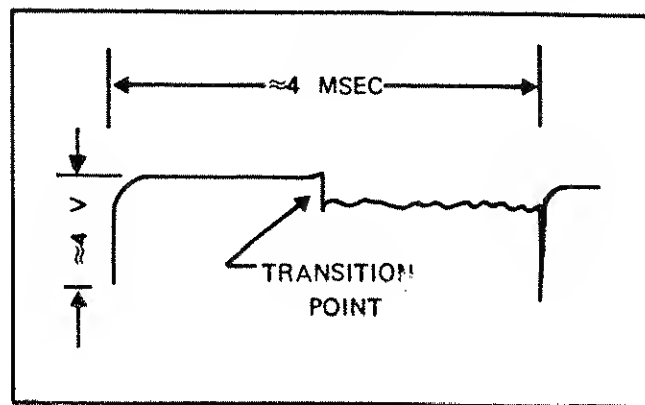

Figure 4-9. CHOPPER WAVEFORM
- d. Alternately adjust R43 counter-clockwise and R34 as necessary to obtain maximum squareness of the chopper waveform without a spike at the transition point. When correctly adjusted, waveform should appear as shown in Figure 4-9.